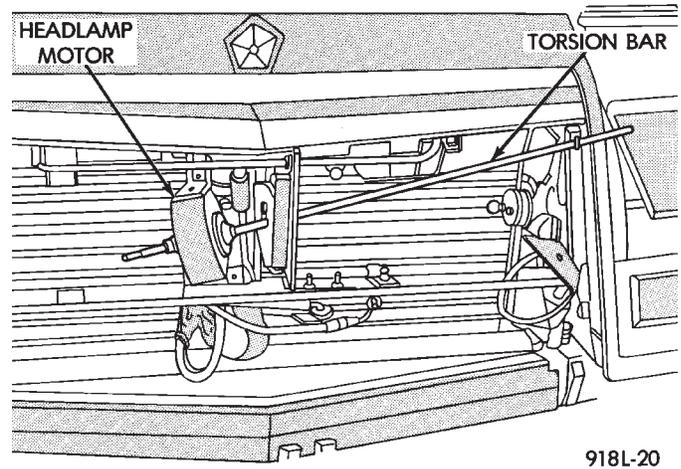

Fig. 21 Headlamp Motor
- (8) Slide torsion bar through the headlamp motor (Fig. 21) and remove headlamp motor.